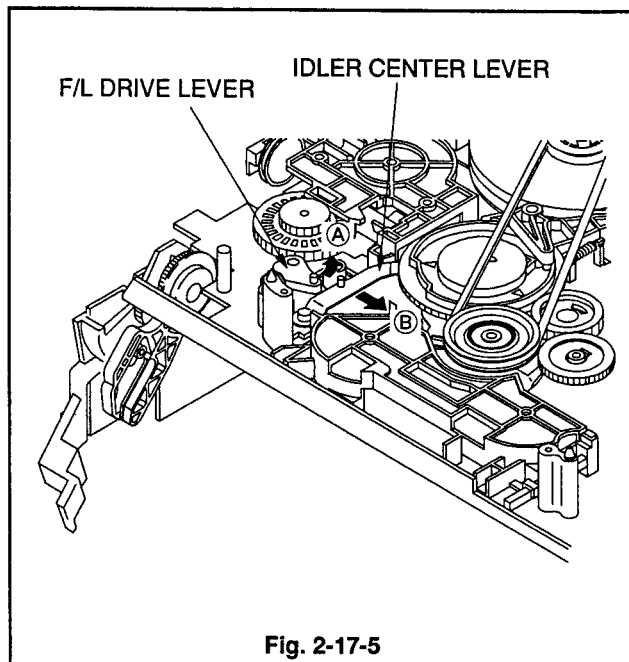

Fig. 2-17-5
7. Fully move the F/L DRIVE LEVER shown in Fig. 2-17-5, in the direction shown by arrow Ⓐ.
11. Fully move the IDLER CENTER LEVER, shown in Fig. 2-17-5, in the direction shown by arrow ㊸.